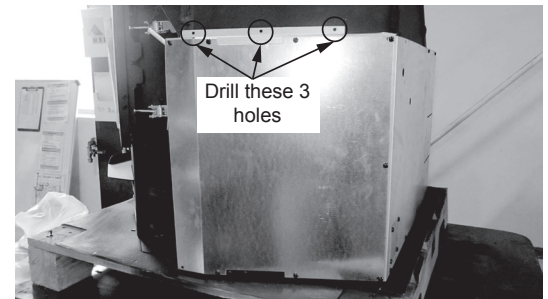

Figure 21.7
10. Using the electric drill with #26 drill; bit drill 3 holes into the hopper. Add three screws to secure shroud assembly to the appliance (**Figure 21.7**).